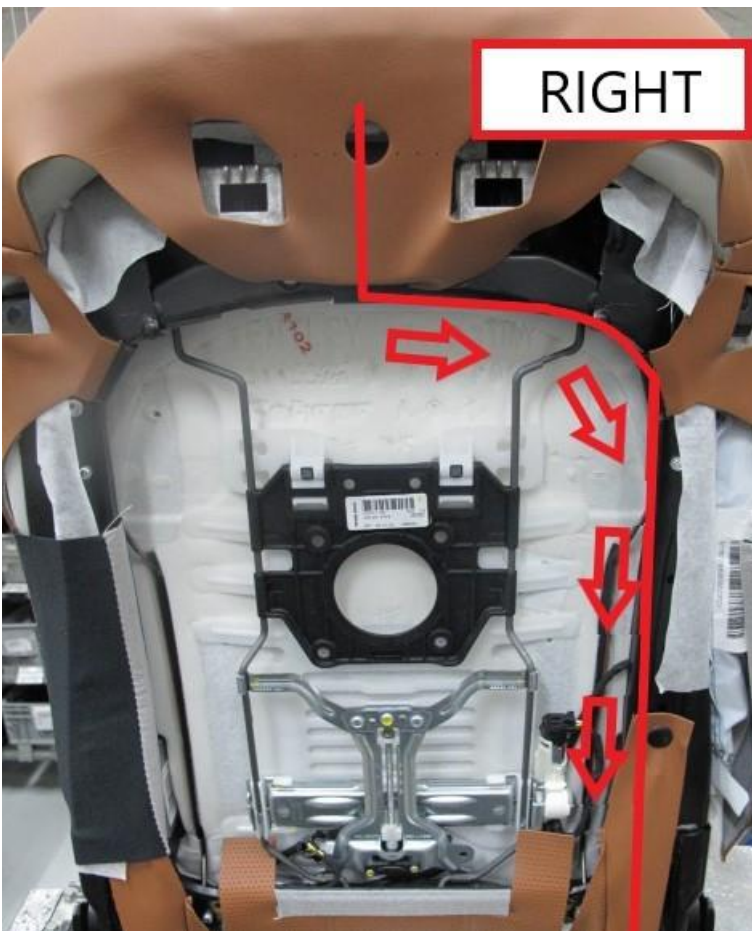

Figure 2
- **Figure 2 - Shows the advised harness route for the right hand front seat**